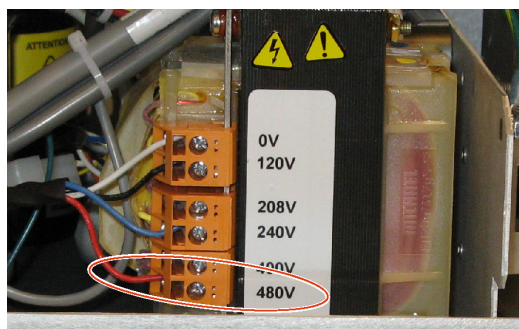

Fig. 4-87 480V connection
2. Check that the red wire is connected to 480 V, at the generator transformer, see Fig. 4-87.